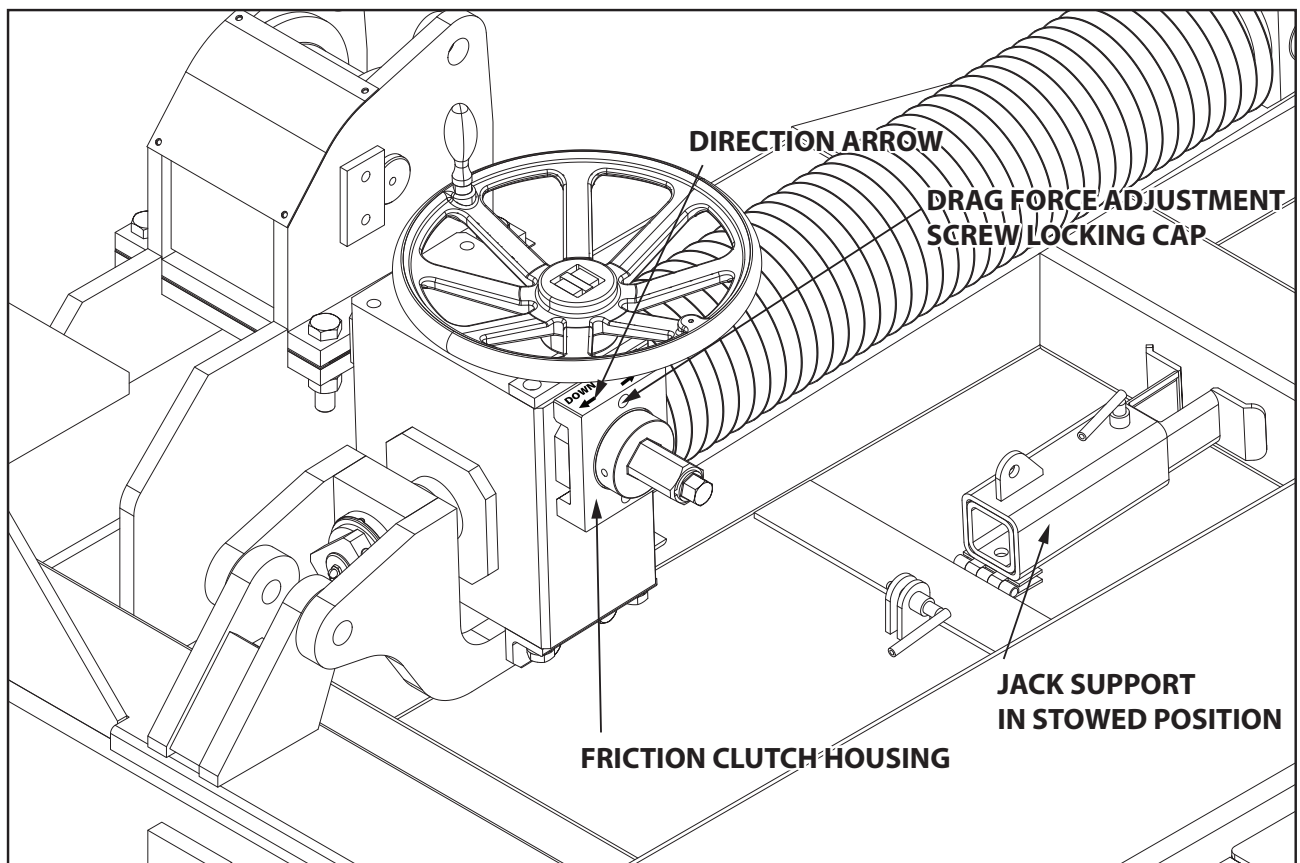

Figure 5.0-1
- 1) Verify that the screw jack support is in its stow position (Figure 5.0-1)